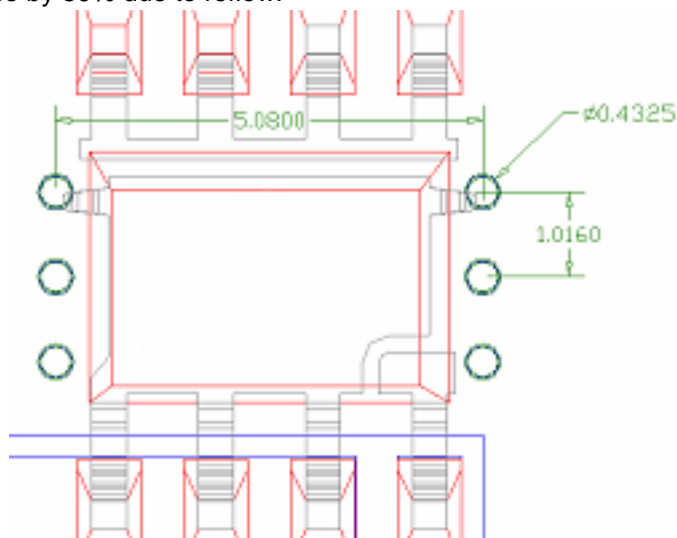

Figure 3: Recommended Via Size and Placement
*Note: This data was taken for the Fairchild FLMP package. It is applicable to the Power56 as well.* Customers frequently wish to use vias in their design to improve thermal performance by using copper for heat dissipation on multiple layers of the PWB. Some papers suggest placing vias in the drain pad for devices like TO-220. This is not recommended by the author. This practice creates unpredictable solder joint formation as the wetting of solder into vias is random; sometimes all of the vias will fill, sometimes none. Placing solder mask over the vias to keep solder from wetting into the vias also creates voiding and is not recommended. It has been proven through Finite Element Analysis and supporting laboratory experimentation that placing the vias just outside the pad will not cause an appreciable reduction in thermal performance, and yield superior manufacturability. Figure 3 is a proven recommendation.